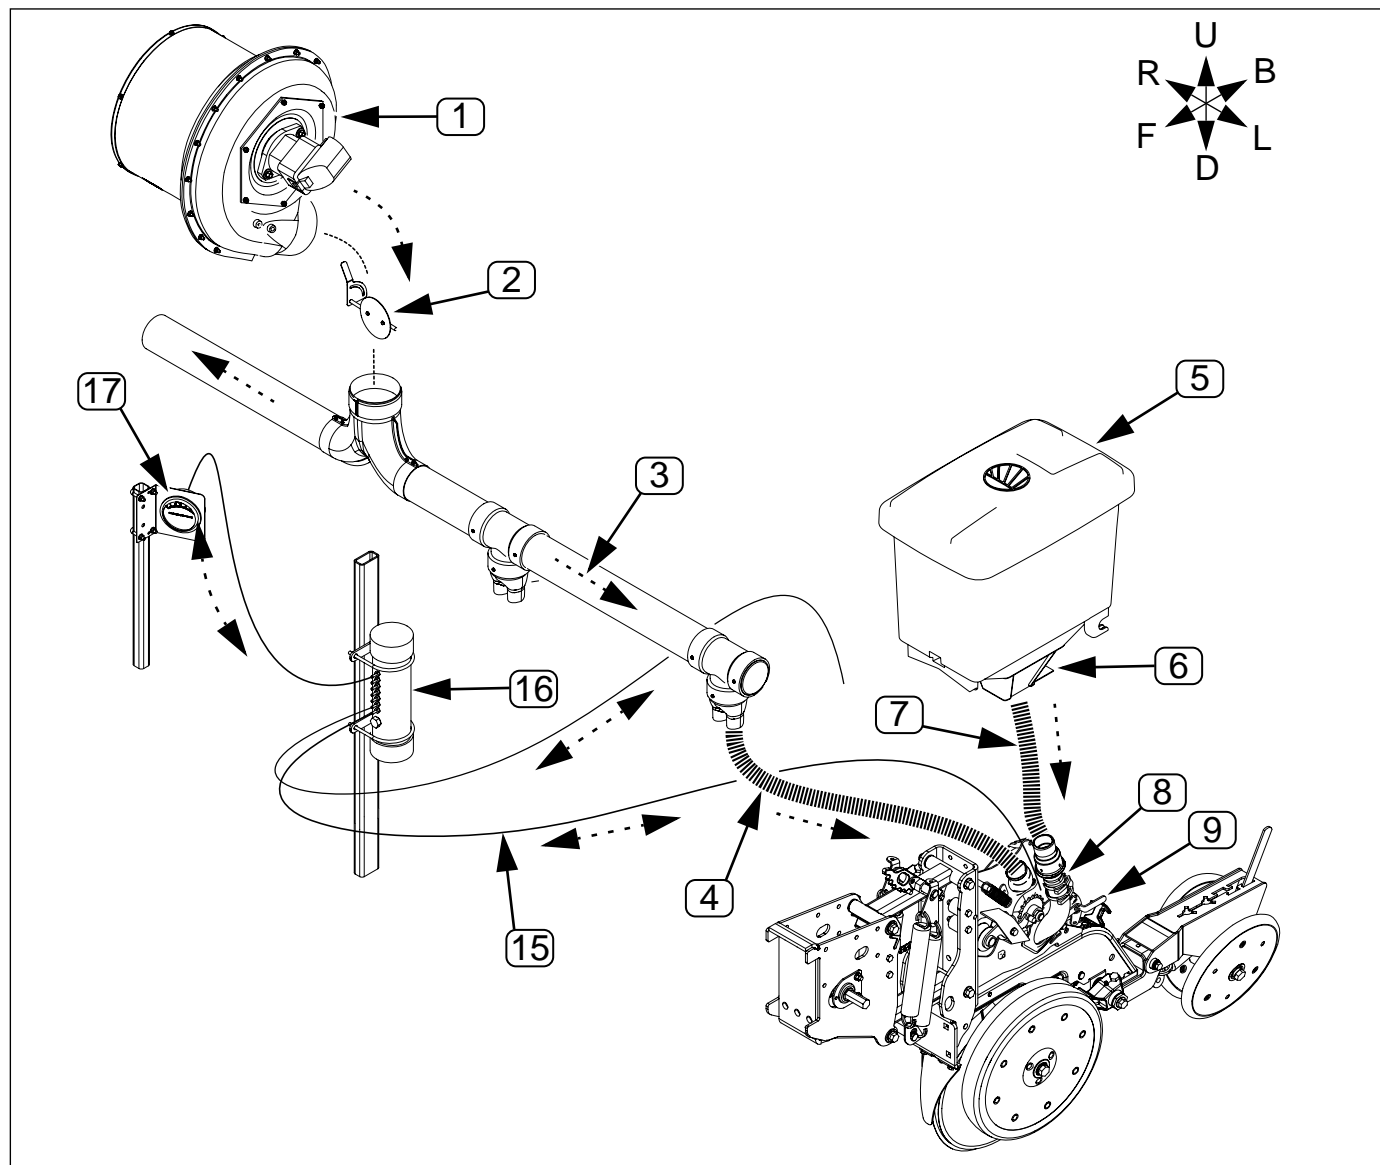
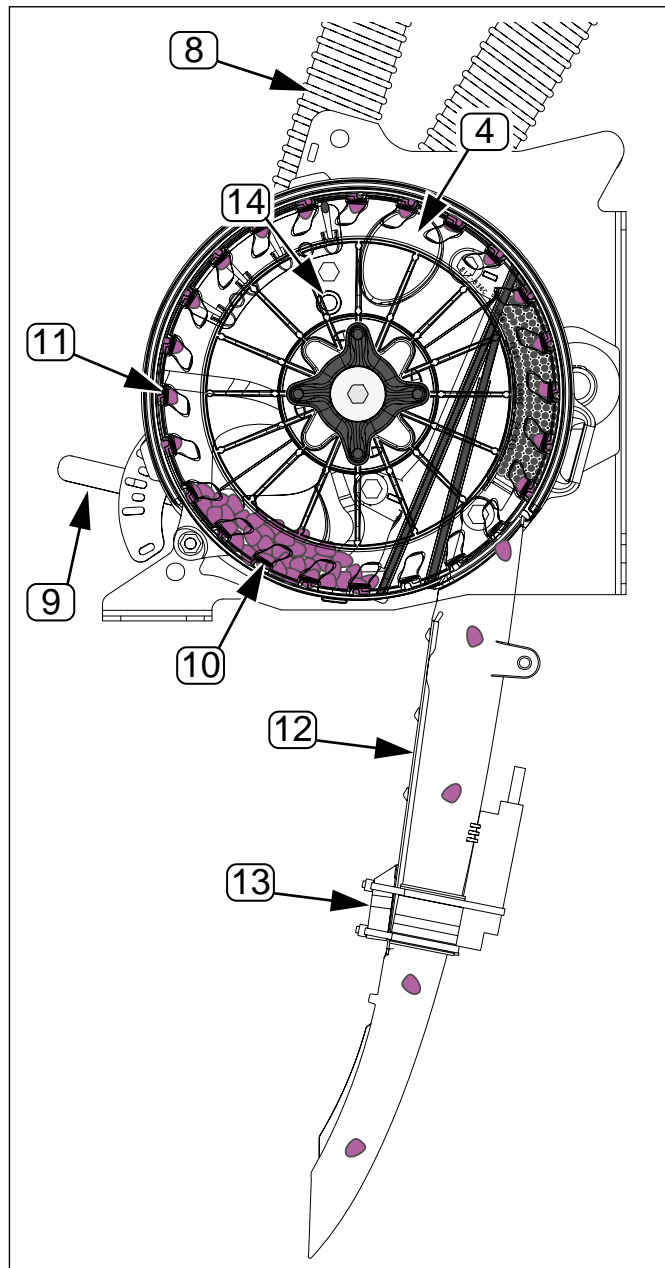

Figure 20
Figure 21
⑤ Seed Hopper	⑪ Disk Seed Pocket (Cell)	⑰ Magnehelic® Pressure Gauge
⑥ Slide Gate	⑫ Seed Hose (Figure 21)
*Refer to Figure 20, on page 27, and Figure 21.*